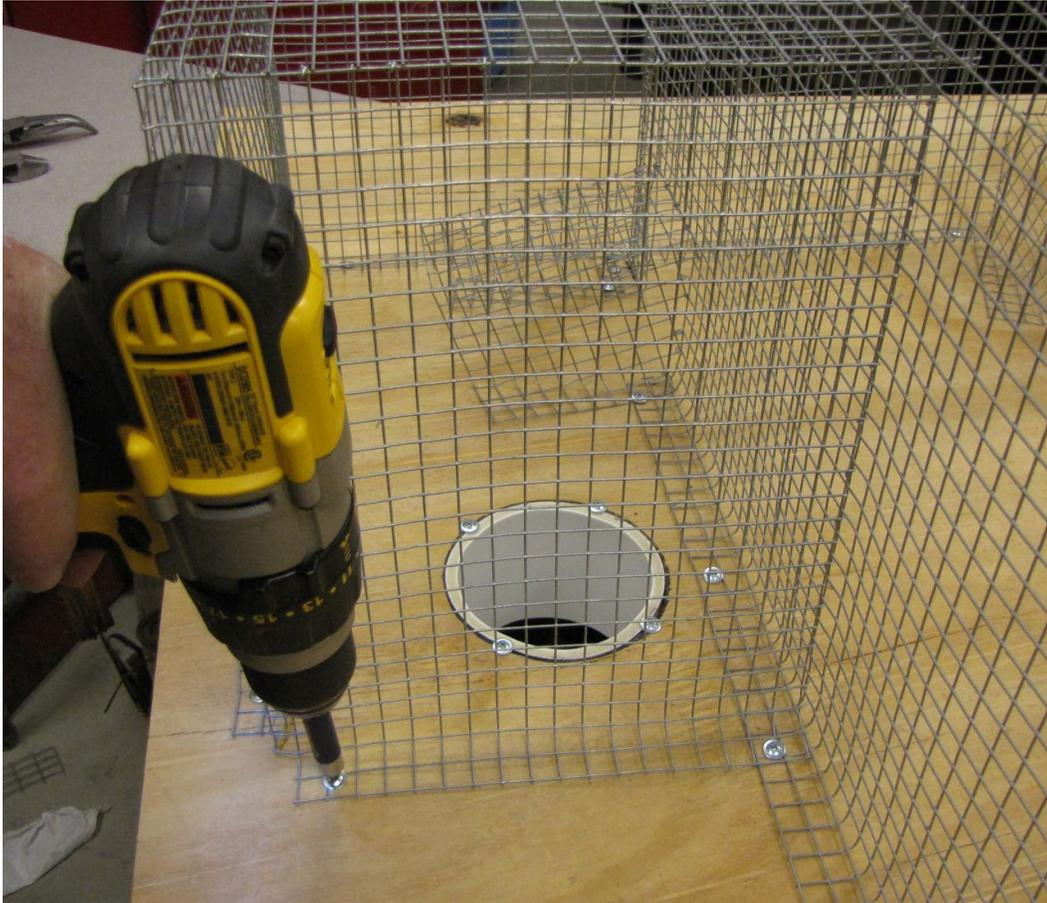

Figure 1-32
13. Secure the bottom of the complete cage with ½” screws to the plywood (Figure 1-32).